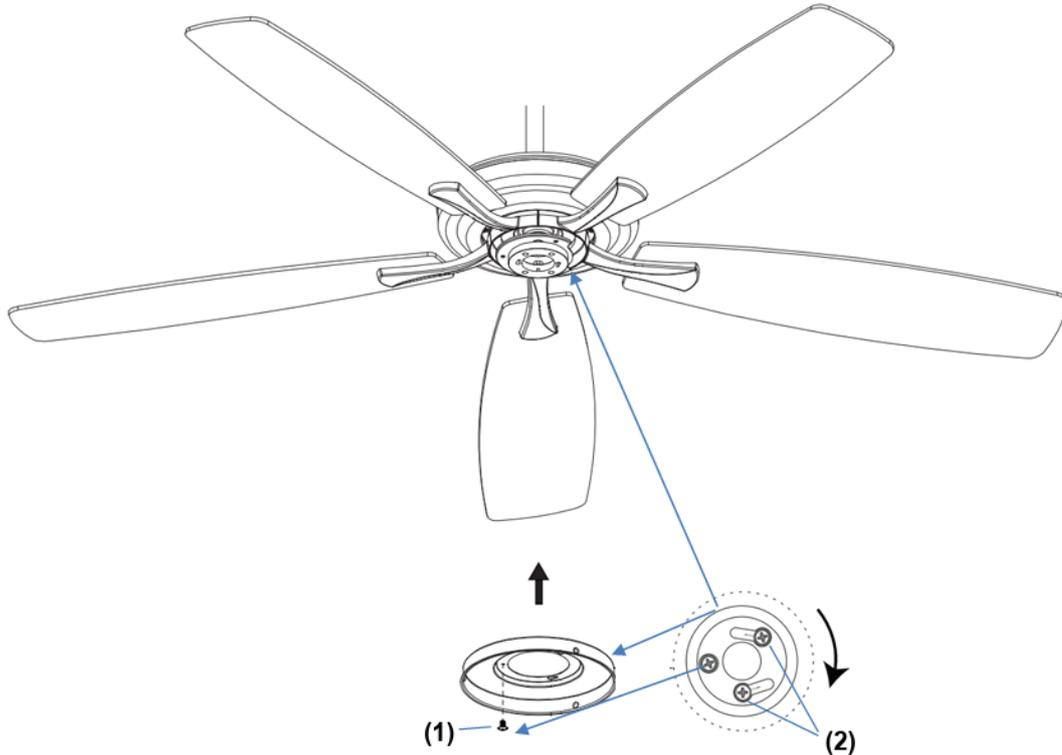
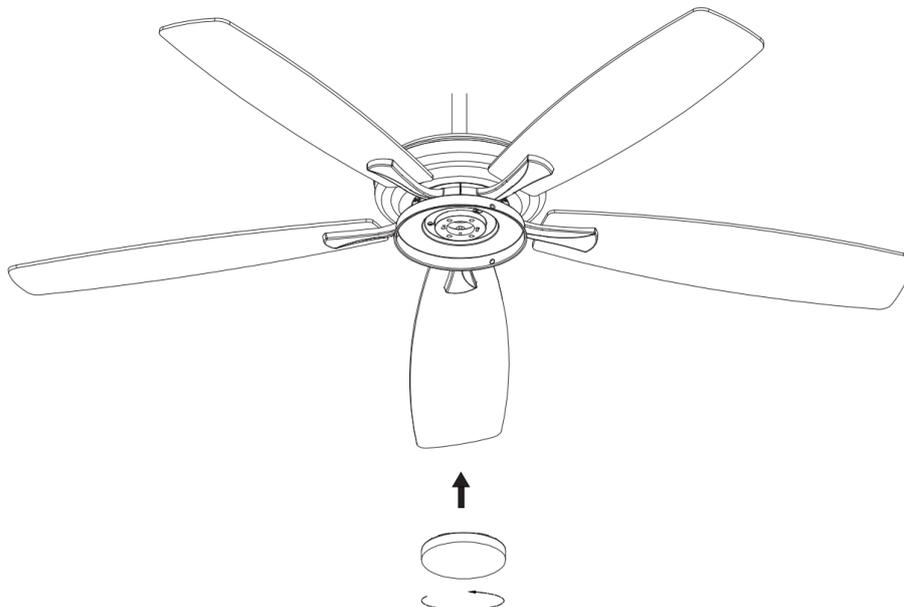
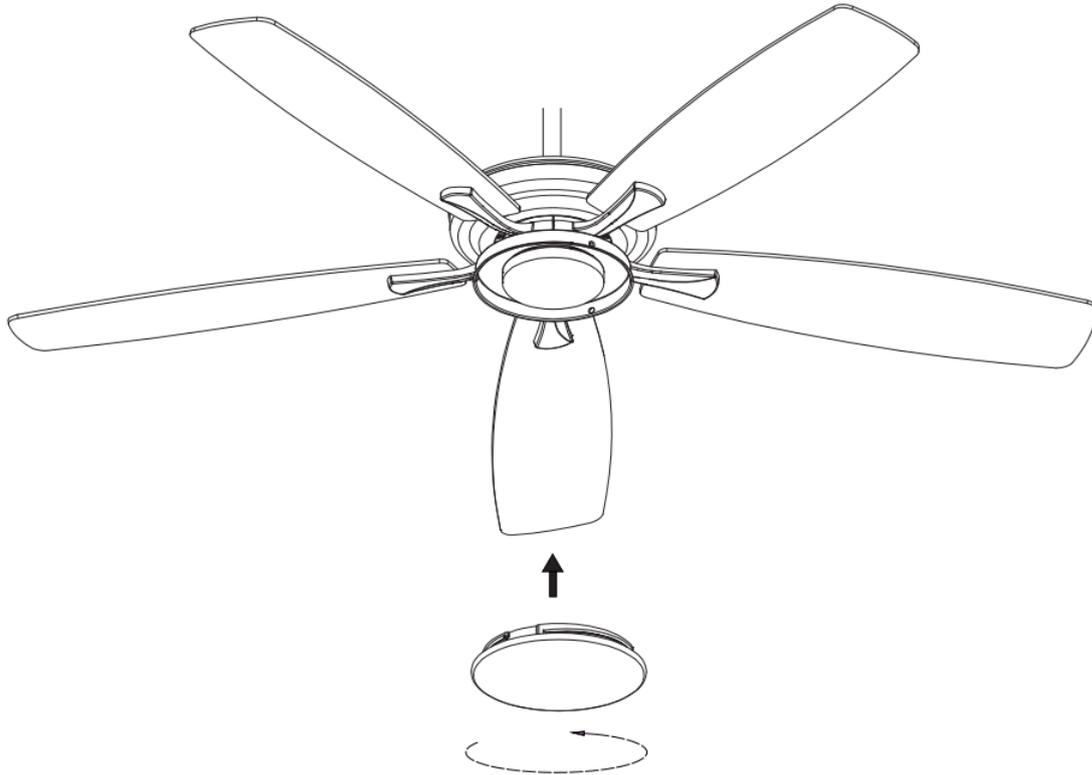

Fig. 8
Fig.9
Fig. 10
**INSTALLATION OF LIGHT KIT (Optional and sold separately) (Fig.8 &Fig.9 &Fig.10)**
2. Loosen the screw (1) from the fan bracket. (Fig. 8)
3. Align the two slot screws with the keyhole slots (2) of the light kit plate. (Fig. 8)
4. Turn the light kit plate counterclockwise until the slot screws are firmly at the end of the slots (2).
5. Secure screw (1) to the light kit plate. Tighten all three screws. Do not over-tighten.
6. Install the GX53 lamp on the fan assembly then secure it by turning clockwise. (Fig. 9)
7. Install the glass shade on the light kit plate then secure it by turning clockwise. (Fig. 10)